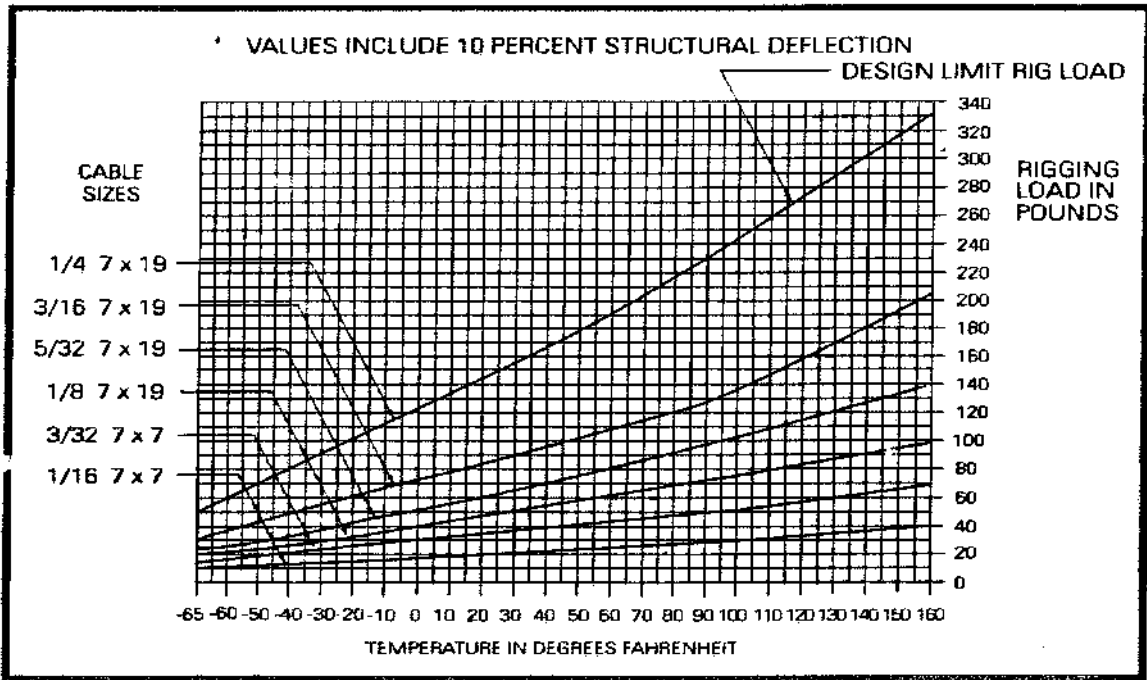

Fig. 3.15. Cable Tension Chart.
50. (Refer to figure 3.15) Determine the proper tension for a 1/8-inch cable (7 × 19) if the temperature is 80° F.
51. (Refer to figure 3.15) Determine the proper tension for a 3/16-inch cable (7 × 19 extra flex) if the temperature is 87° F.